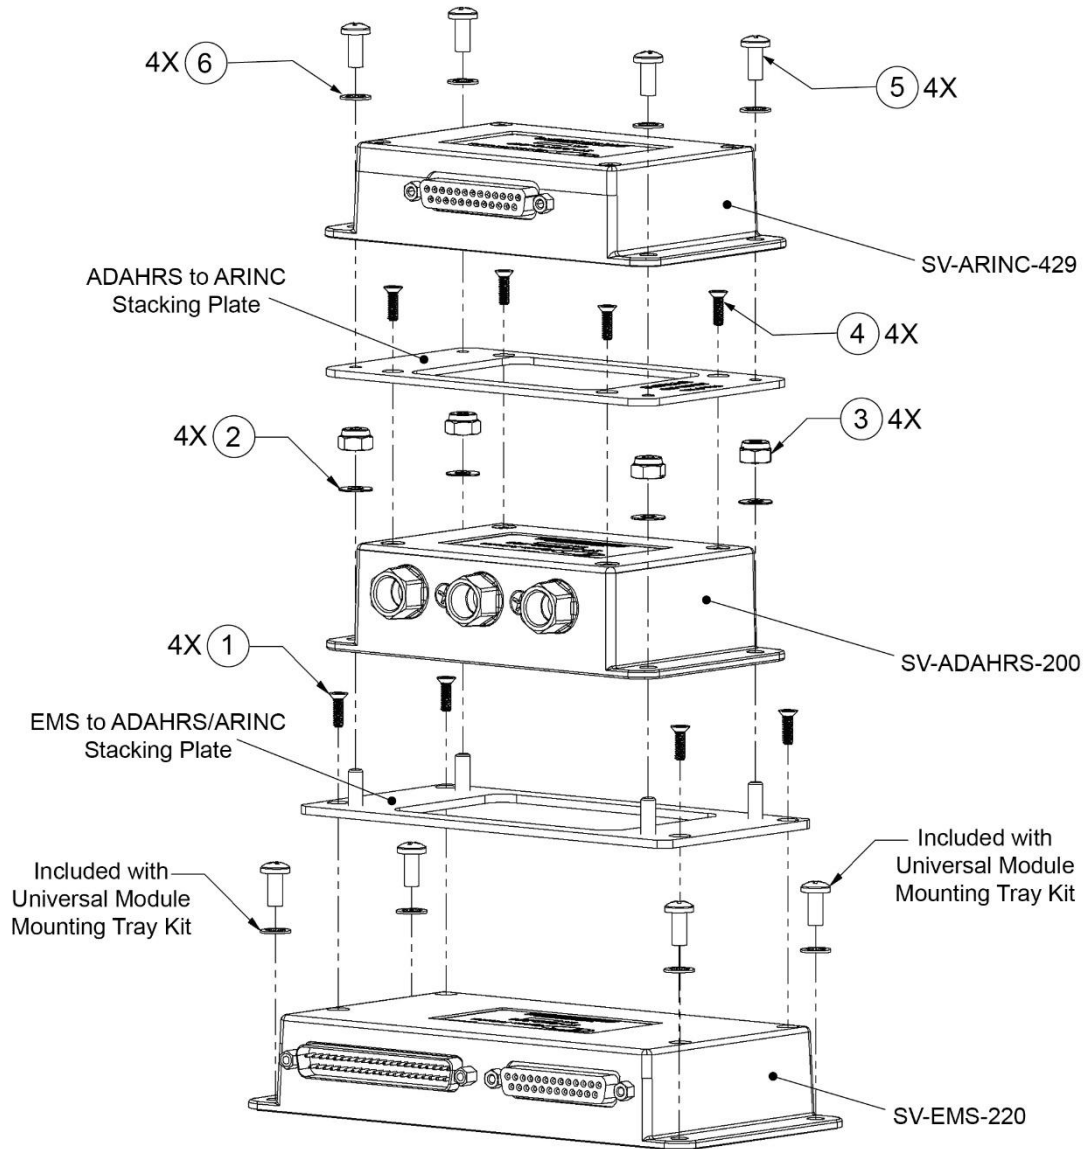

Figure 24: Module Stacking Kits – Module Attachment
The materials identified in Table 12 are provided with the EMS to ADAHRS/ARINC Module Stacking Kit and the ADAHRS to ARINC Module Stacking Kit. ITEM numbers call-out parts in Figure 24.
2. Use provided screws to secure stacking plate to module (see Figure 24).
3. Attach module to stacking plate using provided fasteners, as shown in Figure 24.